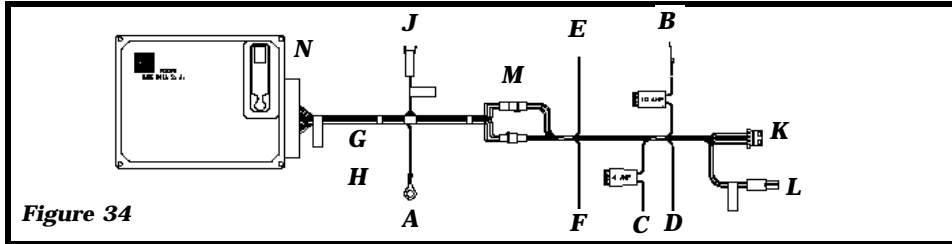

Figure 34
B. Straighten the **CRUISE HARNESS** and find the **2- & 4-pin** mating connectors. Separate the **2- & 4-pin** connectors. A small screwdriver may be needed (See **K** in **Figure 34**).
Utilize **Figure 34** to make the necessary wiring harness connections to your vehicle.
The **Gray Vehicle Speed Signal (VSS)** wire is how the **GlobalCruise** “knows” how fast the vehicle is moving. The **Pulses Per Mile/Kilometer (PPM/PPK)** are a characteristic of the vehicle and must be set accordingly (See **Page 7**). If **VSS** cannot be located on the vehicle then an auxiliary road speed sensor must be used [**Signal Generator** or **Magnet & Coil Pick-Up Kit (Kit# 250-4165)**]. If you use an auxiliary speed sensor, plug it into auxiliary speed sensor connector (**G** in **Figure 34**) and trim the **Gray VSS** wire as not to pick-up any stray signals.
This connector is used in conjunction with the **4-Pin Switch Connector (H** in **Figure 34)**. The **2-Pin Switch Connector (J** in **Figure 34)** is utilized by control switches which require an additional power and ground source such as those containing an **LED** indicator light or **rostra Radio Frequency (RF)** models.